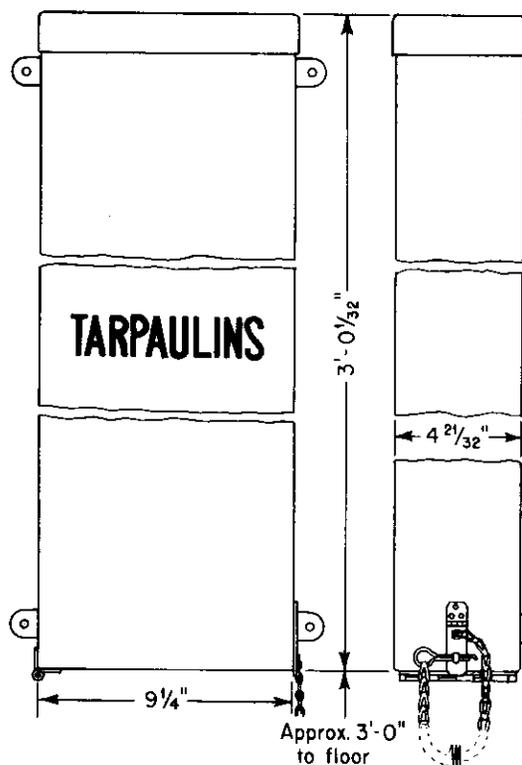

Fig. 1
8.01 Portable tarpaulins and container should be inspected annually for the following items: See Fig. 1.